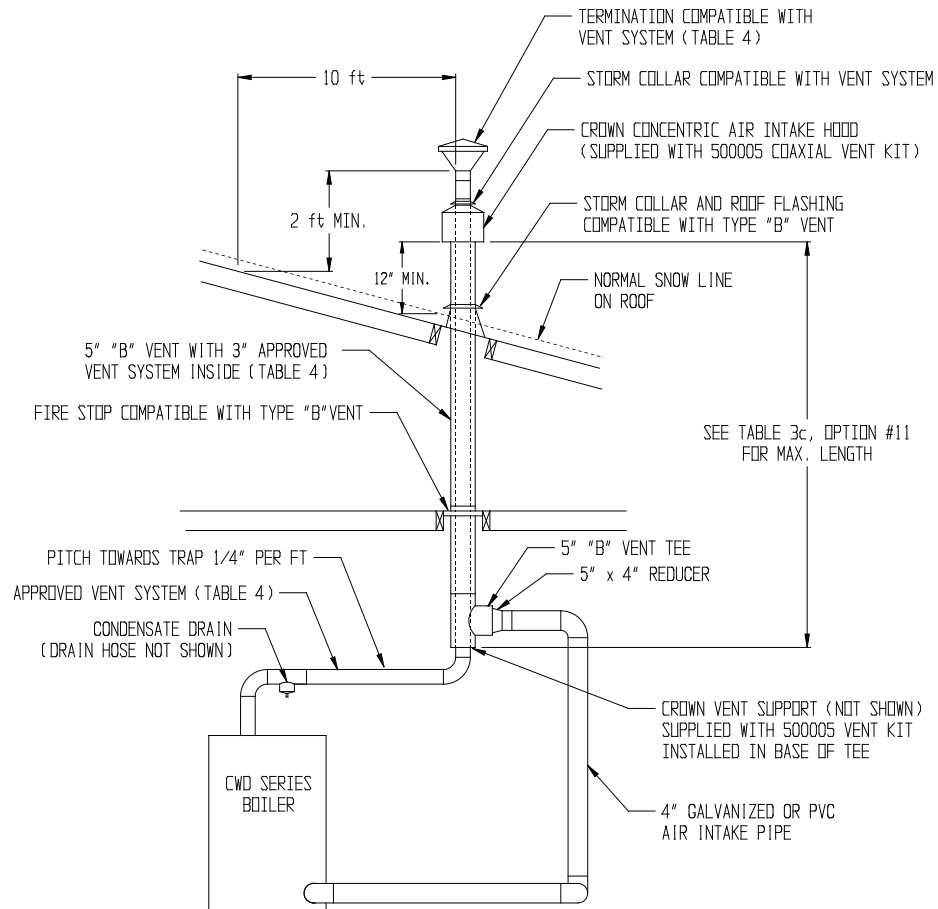

FIGURE 12: VERTICAL COAXIAL DIRECT VENT USING CROWN #50005 VENT KIT (VENT OPTION 11)
- 7) Permitted terminals for Vertical Coaxial Venting (Options 11 - 13) - When the Crown vertical coaxial vent kit is used (Vent Option 11), a cap compatible with the vent system is used (Figure 12, Table 4). The concentric air intake hood supplied in the Crown kit is the air inlet terminal (Figure 12).